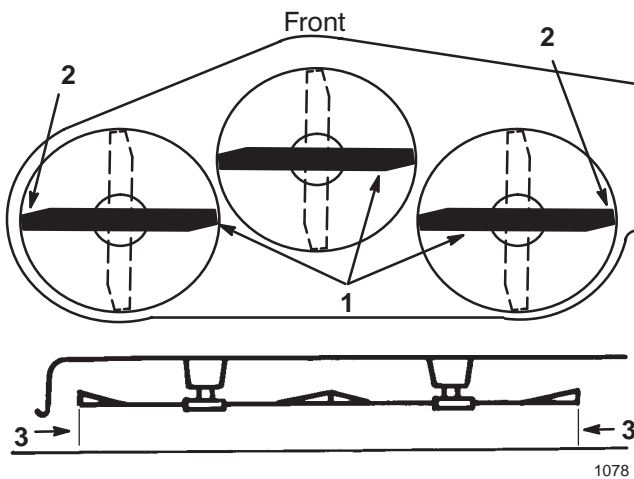

Figure 38
4. Carefully rotate the blade(s) from side to side (Fig. 38). Measure between the outside cutting edges and the flat surface (Fig. 38). If both measurements are not within 3/16 in. (4.75 mm), an adjustment is required; refer to steps 5 and 6.